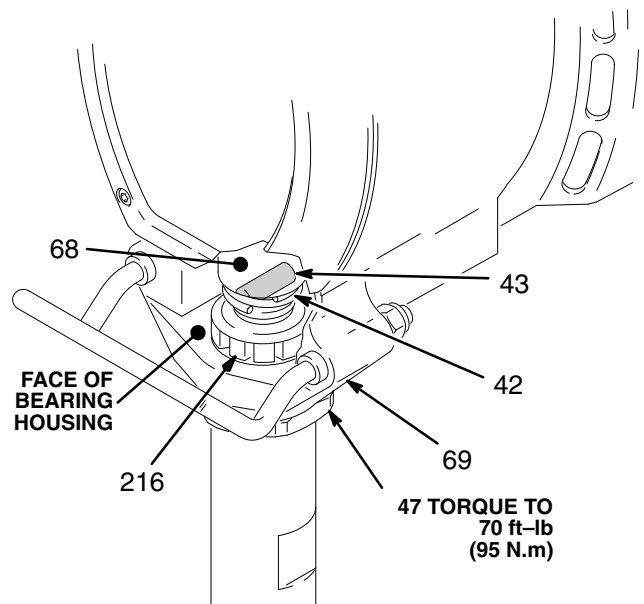

Fig. 32
Install the pump (Fig. 32).
Be sure the retaining spring (42) is firmly in the groove of the connecting rod, all the way around, to prevent it from working loose due to vibration. Refer to Fig. 32.